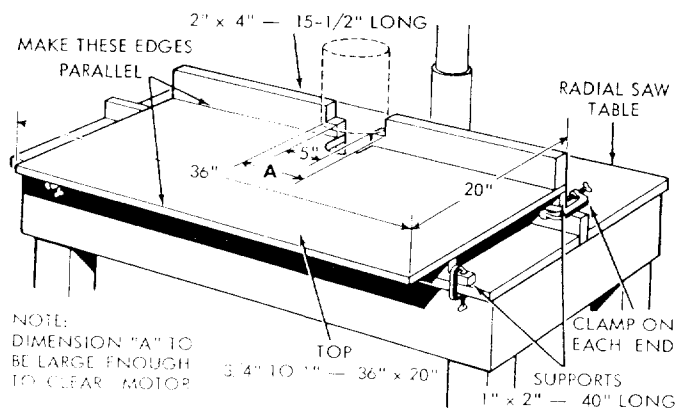

Figure 38
9. An auxiliary table top for molding or shaping can be constructed similar to figure 38. Note the shape of the back guide fence against which your work piece is moved. A cut-out 5" wide should be made at the center of this guide fence to give adequate clearance for the molding head and cutters. Also a wider clearance marked "A" should be made to allow for the radial saw motor. Be sure the front edge of the auxiliary table is parallel with the surface of the guide fence. With the auxiliary table top thus completed it is ready for use by merely clamping it into position with "C" clamps.